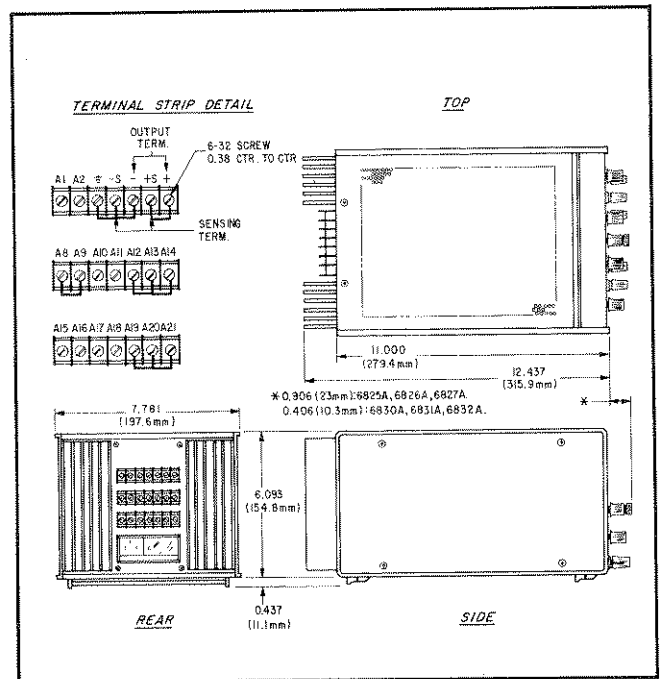

Figure 2-1. Outline Diagram
<p>Input Power:  Model 6826A: 104-127/208-254Vac (switchable), 48-63Hz, 1.0A, 130W  Model 6827A: 104-127/208-254Vac (switchable), 48-63Hz, 1.2A, 150W</p> <p>Meters:                      Individual voltage and current meters. DC accuracy is 3% of full scale. AC accuracy is 5% full scale with sinusoidal, 100Hz input.</p> <p>Meter Ranges (DC):  Model 6826A: ±6V, ±60V                      ±0.12A, ±1.2A  Model 6827A: ±12V, ±120V                      ±0.06A, ±0.6A</p> <p>Meter Ranges (AC):  Model 6826A: 4V (uncal), 40V rms                      0.08A rms, 0.8A rms  Model 6827A: 8V (uncal), 80V rms                      0.04A rms, 0.4A rms</p> <p>Temperature Ratings:                      Operating: 0 to 55°C.                      Storage: -40 to +75°C.</p> <p>Cooling:                      Convection cooling is employed. The supplies have no moving parts.</p> <p>Dimensions:                      See outline diagram, Figure 2-1.</p> <p>Weight:                      18 lbs. (8.2 kg.) net, 21 lbs. (9.5 kg.) shipping.</p>	<p>Model 6827A:                      X1 Range: -10V to +10V, 0 to 0.5A                      X10 Range: -100V to +100V, 0 to 0.5A</p> <p>Load Effect (Load Regulation):                      Voltage load effect is given for a load current change equal to the current rating of the supply. Current load effect is given for a load voltage change equal to the voltage rating of the supply.</p> <p>Model 6826A:                      Voltage (X1 Range): 0.01% + .5mV                      Voltage (X10 Range): 0.01% + 1mV                      Current: .01% + 250µA</p> <p>Load Effect (Load Regulation) Continued:  Model 6827A:                      Voltage (X1 Range): .01% + .3mV                      Voltage (X10 Range): .01% + 1mV                      Current: .01% + 250µA</p> <p>Source Effect (Line Regulation):                      For a change in line voltage between 104 and 127Vac/208 and 254Vac at any output voltage and current within rating.</p> <p>Model 6826A:                      Voltage (X1 Range): .01% + .5mV                      Voltage (X10 Range): .01% + 5mV                      Current: .01% + 250µA</p> <p>Model 6827A:                      Voltage (X1 Range): .01% + 1mV                      Voltage (X10 Range): .01% + 10mV                      Current: .01% + 250µA</p> <p>PARD (Ripple and Noise):                      Rms/p-p (20Hz to 20MHz) at any line voltage and under any load condition within rating.</p> <p>Model 6826A:                      Voltage (X1 Range): 2mV rms/10mV p-p                      Voltage (X10 Range): 6mV rms/35mV p-p                      Current: .8mA rms/5mA p-p</p> <p>Model 6827A:                      Voltage (X1 Range): 2.5mV rms/15mV p-p                      Voltage (X10 Range): 10mV rms/50mV p-p                      Current: .4mA rms/5mA p-p</p>
2-14 Figure 2-1 illustrates the outline shape and dimensions of Models 6826A and 6827A.